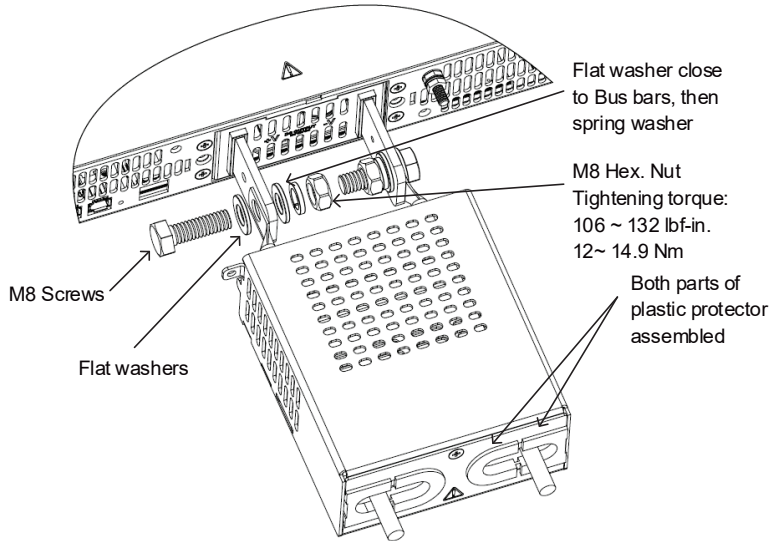
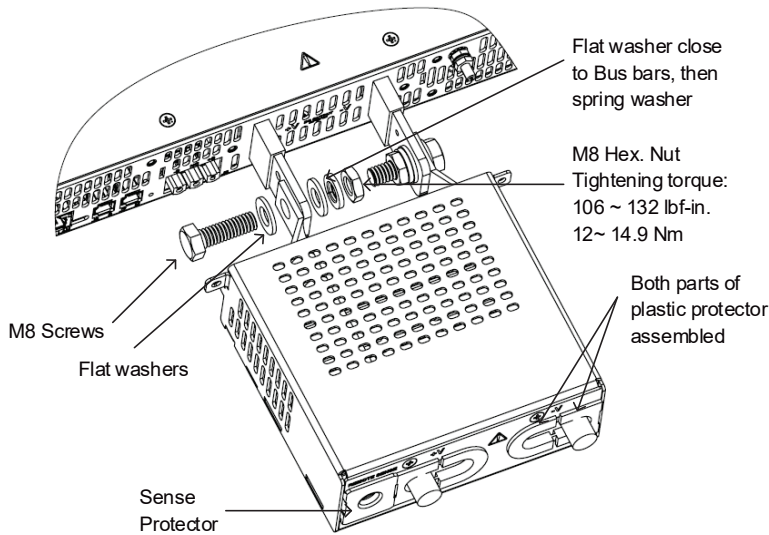

Figure 4-55: Wires Assembly
Figure 4-56: 7.5kW Wires Assembly
- The recommended wires according to Table 4-2 and Table 4-3 can be inserted through the output protection assembly. No need to open the output protection assembly, refer to Figure 4-55. For 7.5kW assemble sense protector as well, refer to Figure 4-56 for 7.5kW output protection assembly.